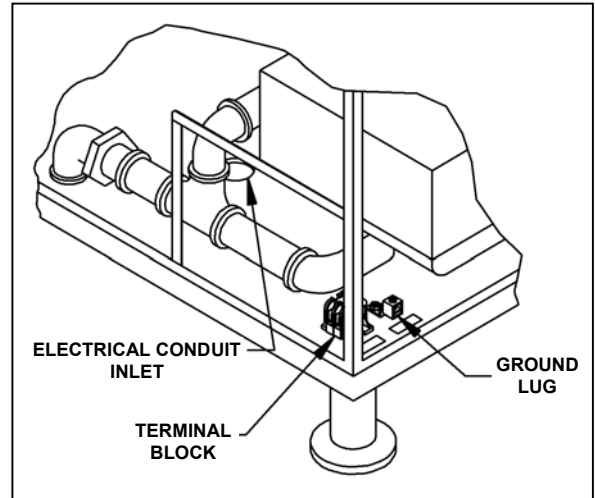

Figure 2-7, Electrical Connections
- d. Refer to the connection diagrams in Figure 2-7, and connect the wires to the terminal block and ground connector accordingly.